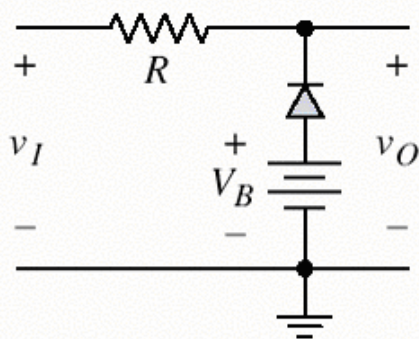

Fig 2-3a
- a) Connect the circuit in Figure 2-3a. Use  $R = 100 \text{ kohm}$  and a 1N5404 diode. For the input signal  $v_i$ , use 5Vp-p, 1kHz sine wave and use variable power supply (VPS) to provide the battery voltage. Set  $V_B = 1 \text{ V}$ . Measure and sketch the input and output waveforms.